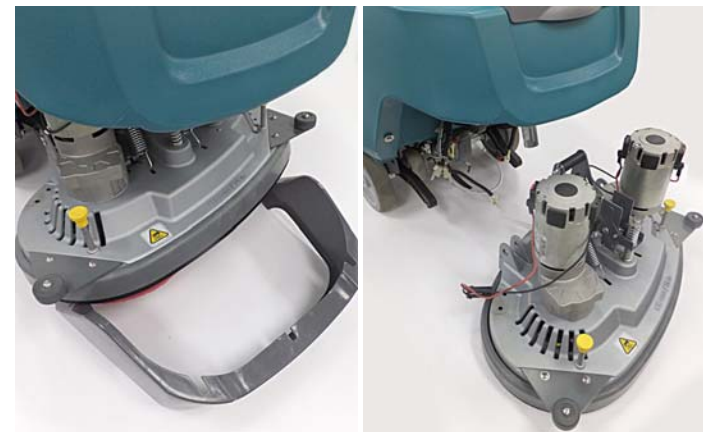

Fig. 23
- Remove the front shroud and scrub head from machine (Figure 23). Refer to the Service Manual for scrub head removal instructions.